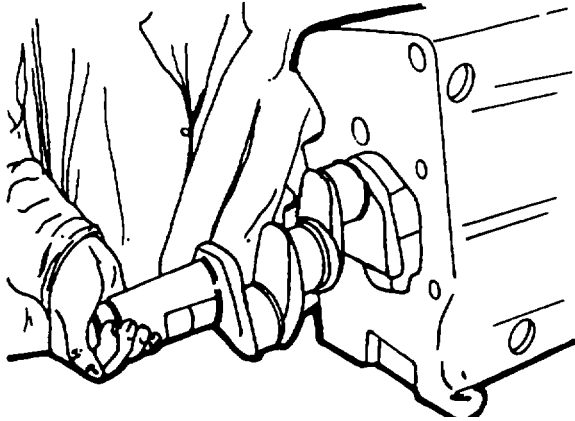

Figure 5-18. Removing/Reinstalling Crankshaft
- j. Remove the crankshaft from the flywheel end of the engine (figure 5-18).